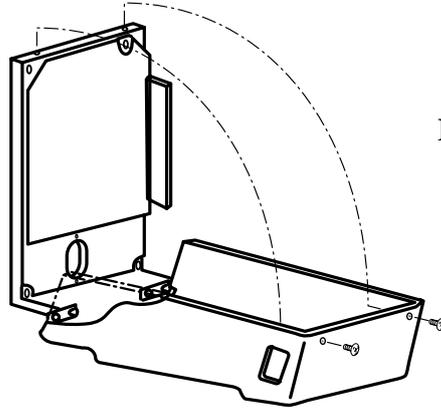

FIGURE 9
C. CLOSING FRONT PANEL (FIGURE 9).